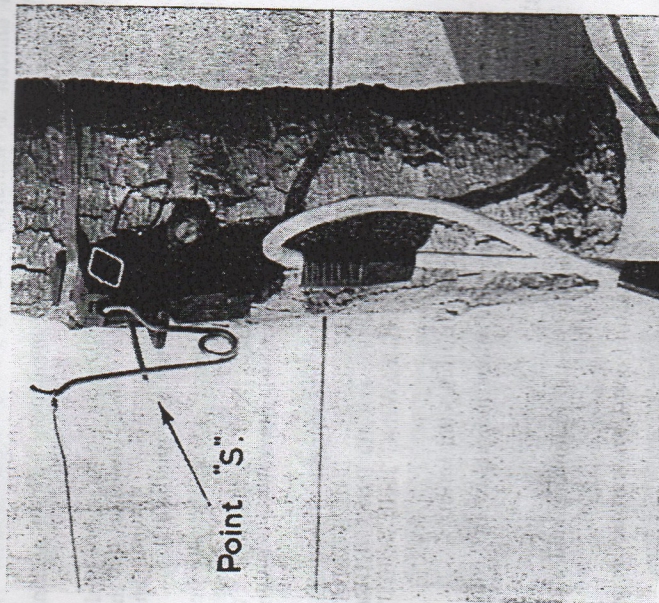

Figure 8
24. *Setting.* (See Figure 8.)
- Cut the tripwire to a suitable length and take a complete turn around the curved neck on the tension release attachment. Adjust tension on wire until arm of attachment lines up with point "S" (Figure 8). Twitch wire securely and cut off spare end.